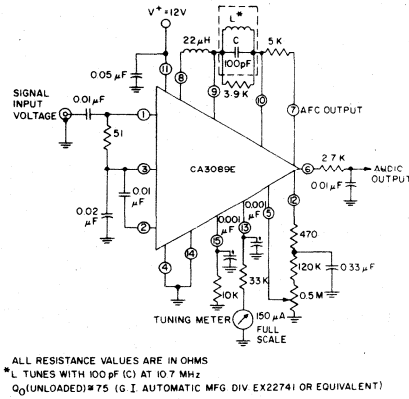

Fig. 5 — Test circuit for CA3089E using a single-tuned detector coil.
**ELECTRICAL CHARACTERISTICS, at  $T_A = 25^\circ\text{C}$ ,  $V^+ = 12$  Volts (See Figs. 5 and 6)**